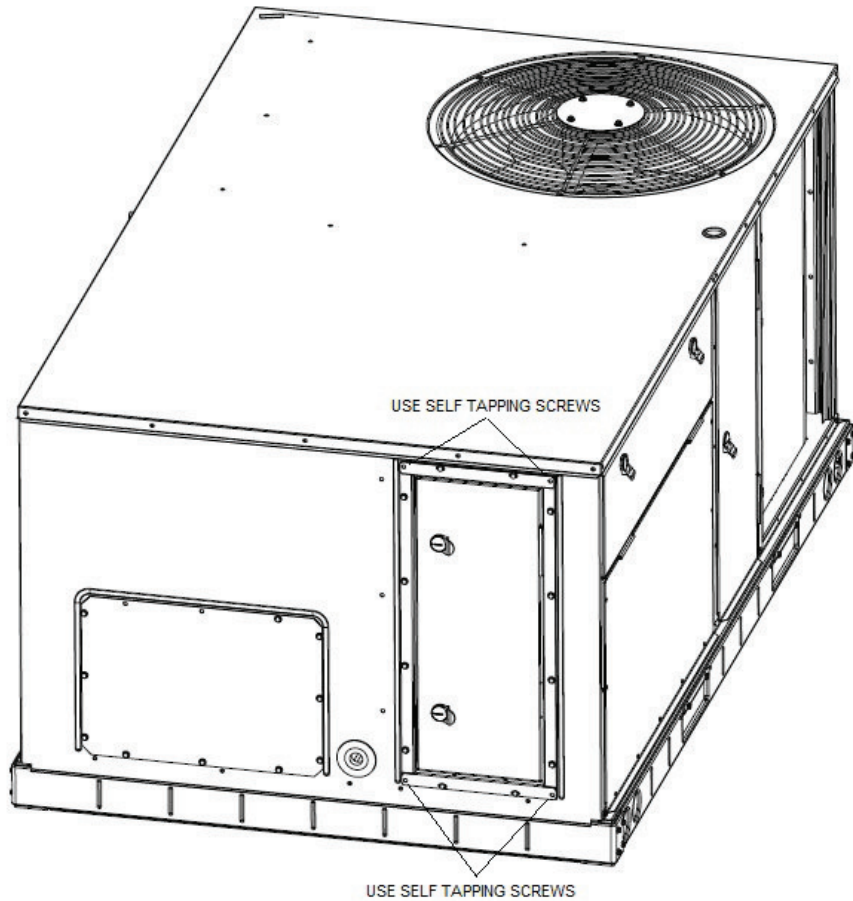

Fig. 3 - Filter Door Assembly Installed (Note: Latches must be on the left.)
3. Position the filter access door assembly over the horizontal return opening. Note that the door must swing to the right when opened. The latches will be on the left. (See Fig. 3.) Since there is seal strip covering the clearance holes in the filter door frame, it will be easier if an awl is used to align the clearance holes in the frame with the holes on the end of the unit.
5. Use the self tapping screws with rubber washers shipped with the kit to secure the frame to the unit in the 4 corners of the frame. (See Fig. 3.) Note that